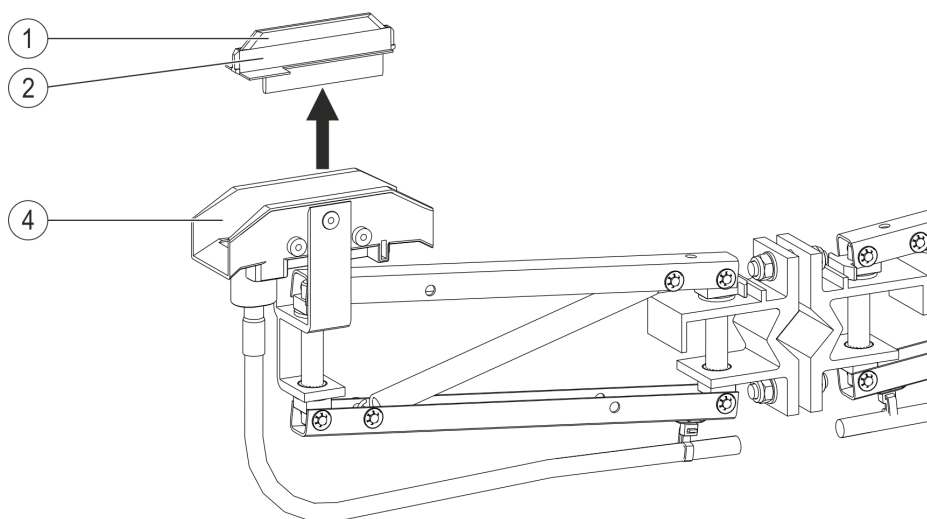
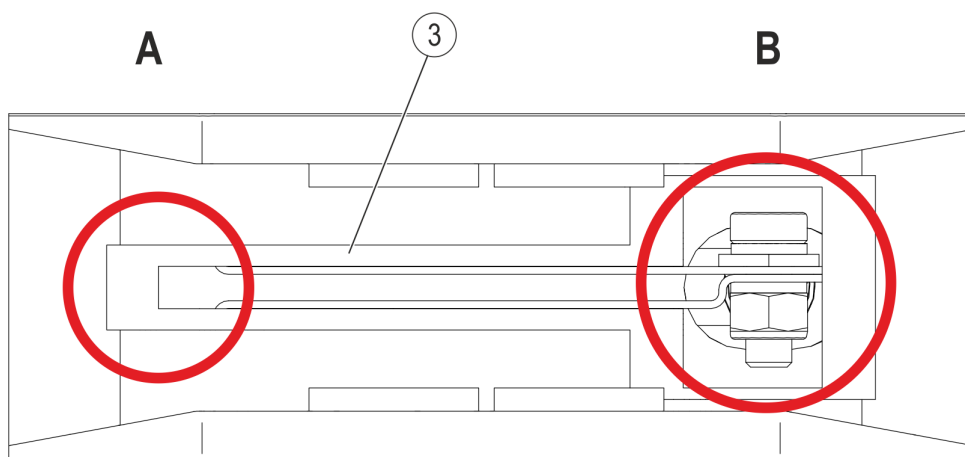
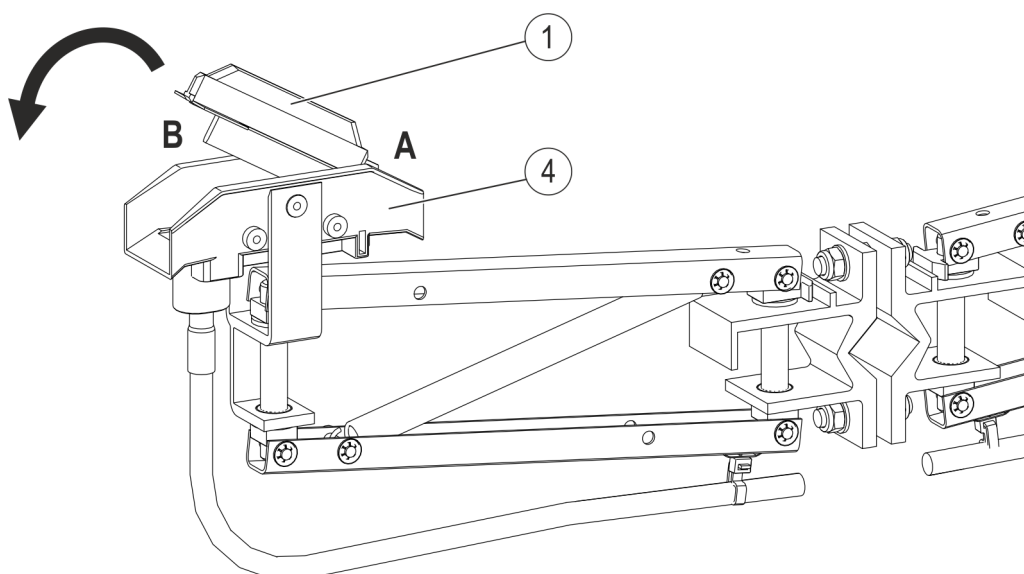

Fig. 132: Remove sliding contact (Pos. 1) and plastic insulation (Pos. 2)
Fig. 133: Farthest side (A) and narrowest side (B) of the contact plate (Pos. 3)
Fig. 134: Sliding contact cut-out on the side of the rail
In order to replace the sliding contact (Pos. 1) (see Fig.132), the following work steps must be conducted:
- Hold the current collector head firmly and use water pump pliers to adjust the sliding contact (Pos. 1) with its plastic insulation (Pos. 2) pulled out. Start pulling out on the more open side (= side A in Fig. 133) of the contact plate (Pos. 3) (see Fig 132 and Fig. 133).
- Clean the area under the plastic insulation (Pos. 2), particularly the contact surface of the contact plate (Pos. 3) (see Fig. 133).
→ Press the new sliding contact with its plastic insulation by hand into the sliding contact insulation (Pos. 4) (see Fig. 134). Start at the more open side of the contact plate (side A in Fig. 133) and then fully insert the sliding contact while turning. No tools (such as a hammer) may be used when pressing in, as this can damage the contact surfaces of the sliding contact. Please note the following when inserting:
- The sliding contact cut-out (Pos. 1) must sit on the side of the rail (Side B) (see Fig. 134).